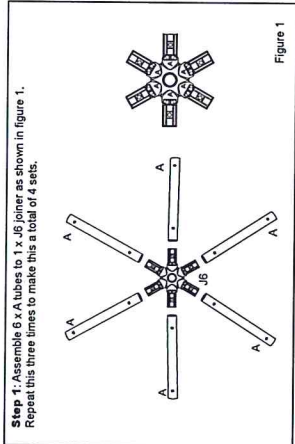

Figure 1
1. Attach the dismantle tool to the tube as shown in figure 1.